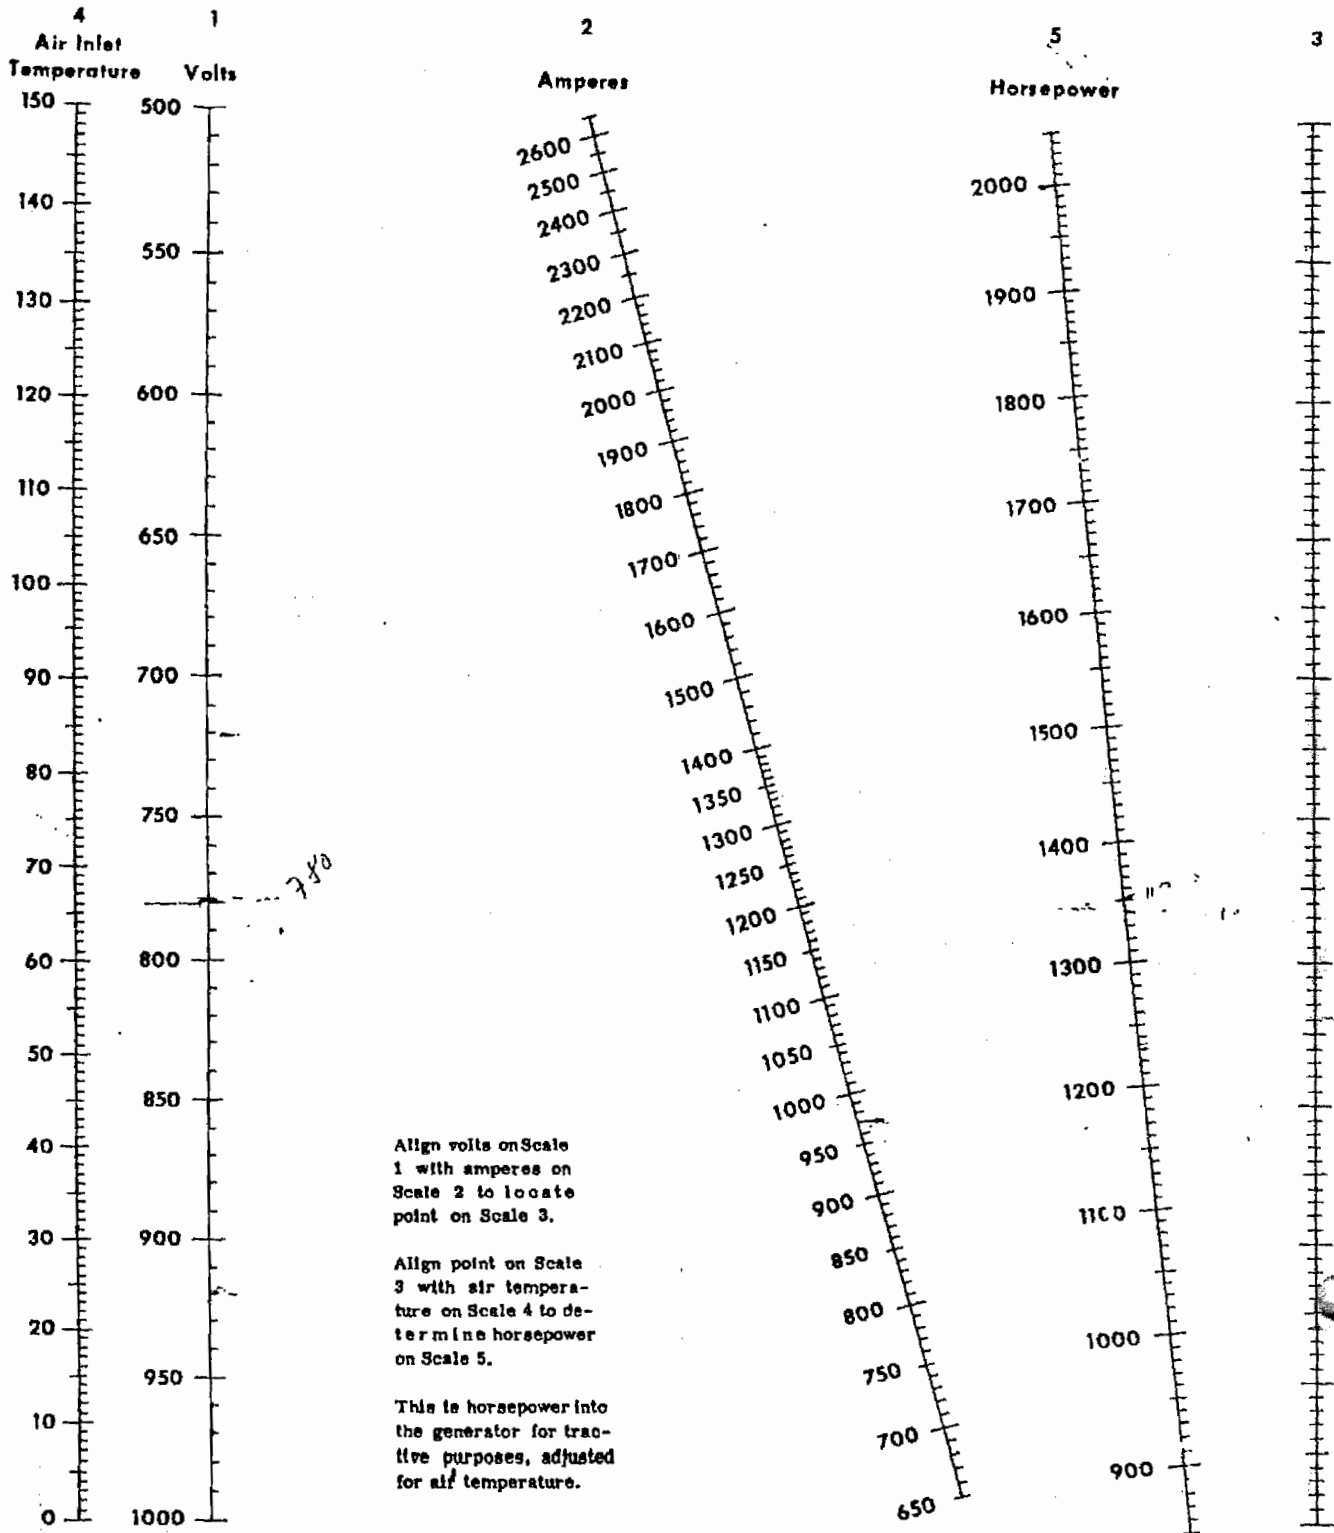

Fig. 1 - Horsepower Nomograph For Normally Aspirated Engines
The nomographs, Figs. 1 and 2, for converting voltage, amperage and ambient air temperature readings into horsepower, are based on 93.8% generator efficiency. This efficiency is automatically obtained when locomotive is loaded by connecting to the dynamic brake grids. When using any other loading arrangement, the generator amperage should be within the range given in Table I for the specific generator concerned, in order to attain 93.8% generator efficiency.
5. Using correct nomograph, Fig. 1 or 2, determine horsepower into the generator for tractive purposes, adjusted for existing ambient air temperature. Table II lists the rated horsepower for the various locomotives.